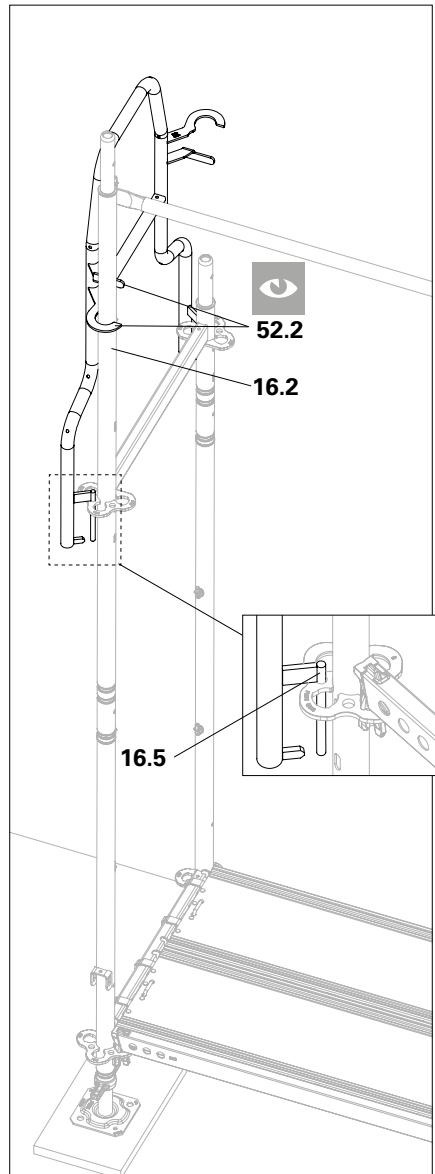

Fig. A3.14c
3. Raise the end guardrail in advance and insert the pegs **(52.1)** into the brace adapter **(16.5)** of the rosette from above. Lower the end guardrail in advance as far as it will go. (Fig. A3.14c)
- End Guardrail UPA in advance is now installed. (Fig. A3.14c)